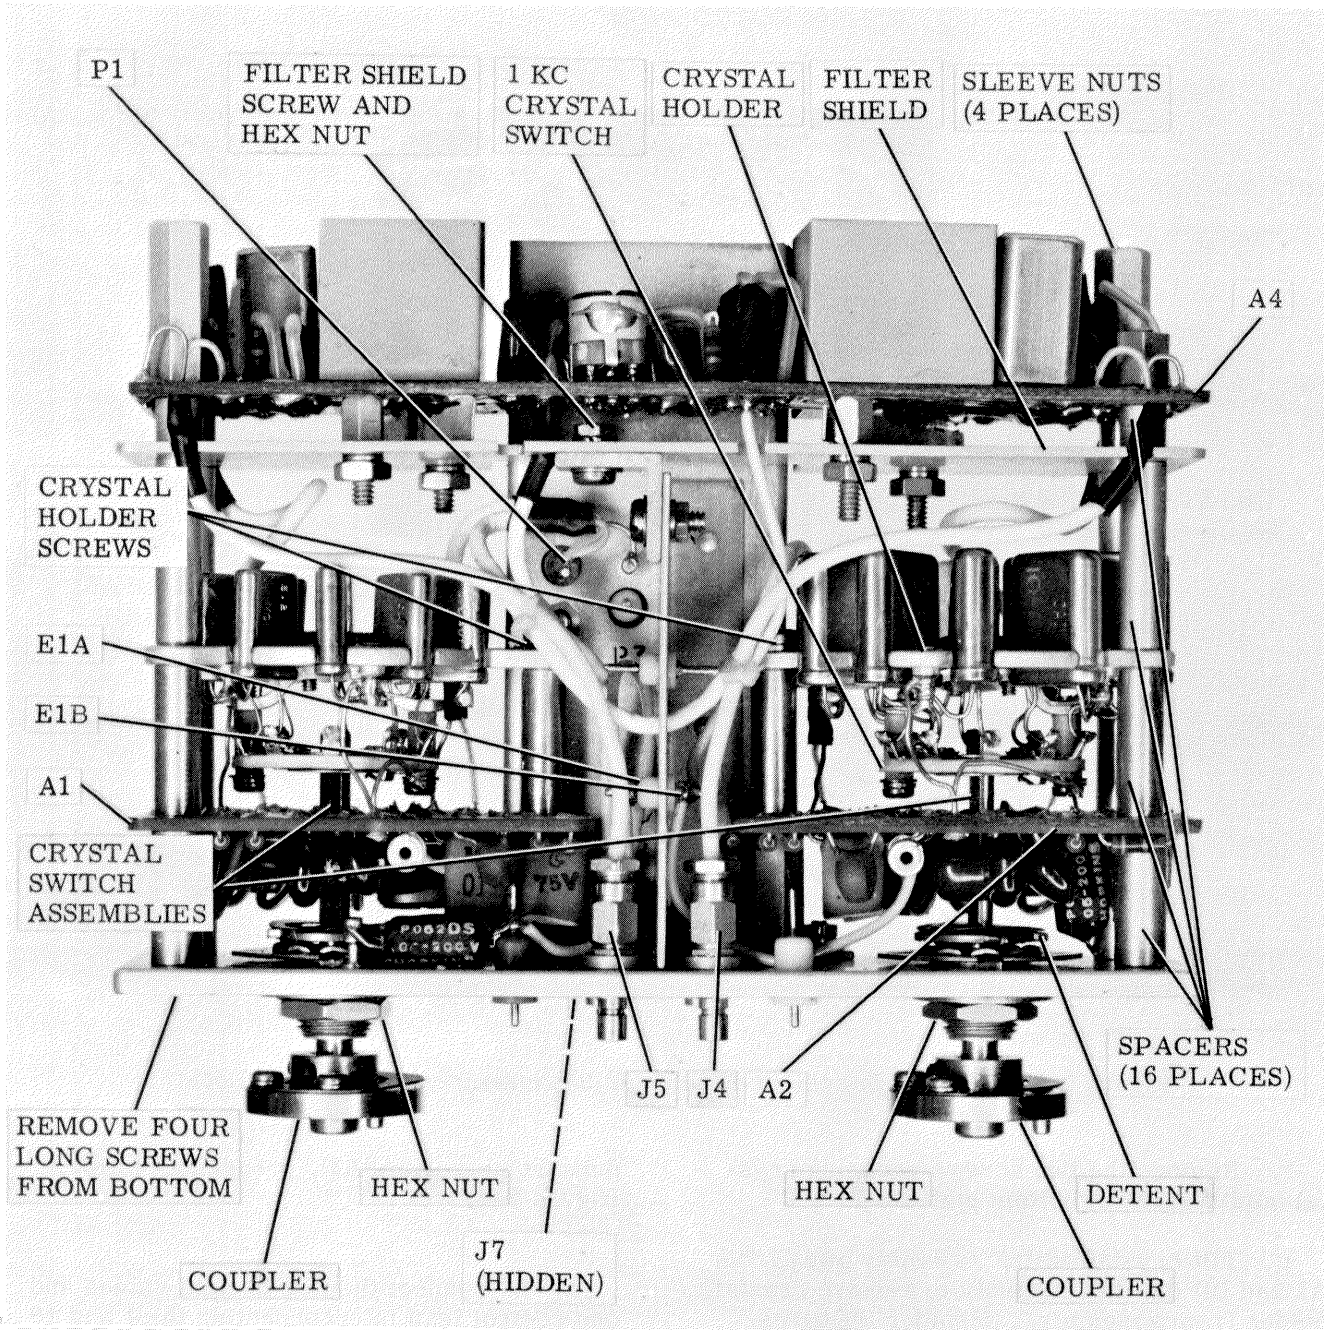

Figure 3-4. 1 And 10KC Synthesizer Electronic Subassembly, Component Location
Subassembly (A2A6A3), proceed as follows (figure 3-4):
- (1) Two leads at E1B (figure 3-4).
- (2) One lead at E1A interconnecting E1A and A1 (figure 3-4).
- (3) One lead at A1 terminal 7 interconnecting A1 and crystal holder.
- (4) One lead at A1 terminal 1 interconnecting A1 and switch wafer.
- (5) One lead at A2 terminal 7 interconnecting A2 and crystal holder.
- (6) One lead at A2 terminal 1 interconnecting A2 and switch wafer.
- (7) Two coaxial cable leads at A1 terminals 3 and 6 interconnecting A1 and A4.
- (8) Two coaxial leads at A1 terminals 4 and 5 interconnecting A1 and P1.
- (9) Two coaxial cable leads at A2 terminals 4 and 6 interconnecting A2 and P1.
- (10) Two coaxial cable leads at A2 terminals 3 and 5 interconnecting A2 and A4.
e. Remove screw and hex nut securing filter shield (figure 3-4) to housing bracket.
f. Remove four sleeve nuts and washers (figure 3-4) secured to the four long screws. Do not remove the four long screws at this time.
(1) Unsolder the crystal leads from the switch wafer (mark all leads).
(2) Remove screws and washers securing the switch wafer to the bracket.
p. Remove the hex nuts and washers from the detent (figure 3-4) and remove the detent.